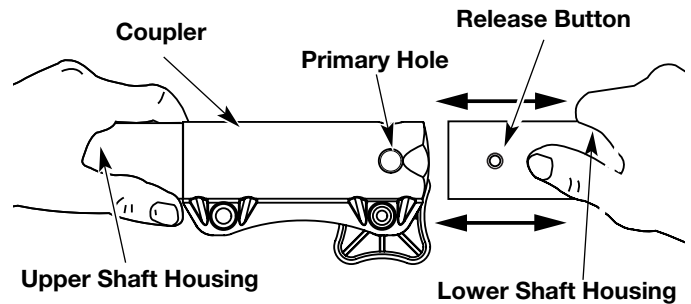

Fig. 2
3. While firmly holding the upper shaft housing, pull the add-on straight out of the coupler. (Fig.2)
3. While firmly holding the add-on, push it straight into the coupler (Fig. 2).